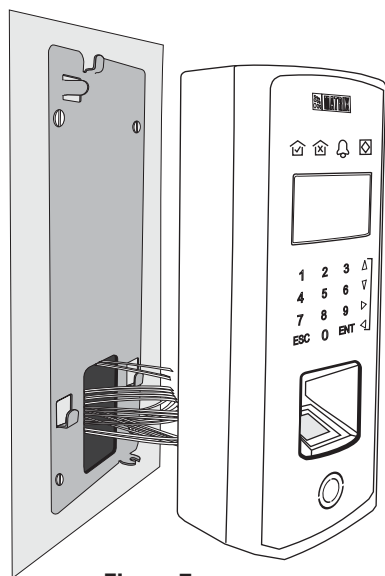

Figure 7
- After you have completed all the electrical connections, lead all the cables through the rectangular hole into the electrical box recessed in the wall (figure 7).